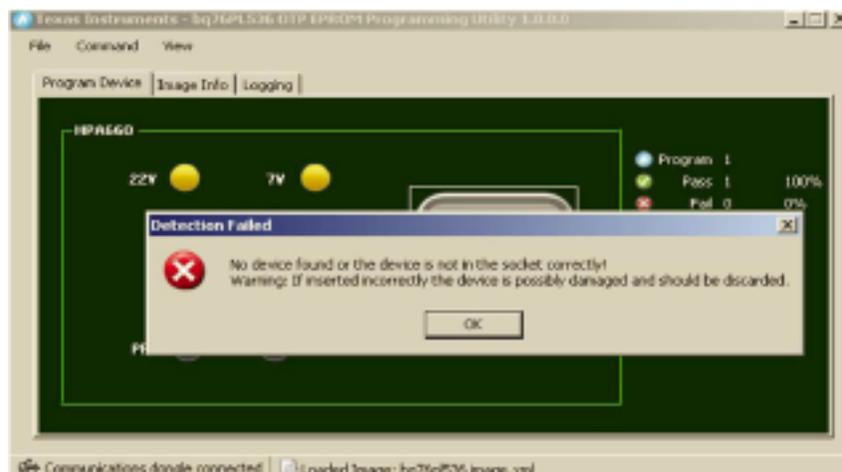

Figure 17. Warning for NO IC or IC Inserted Incorrectly
1. See Figure 17. Error message pops up.